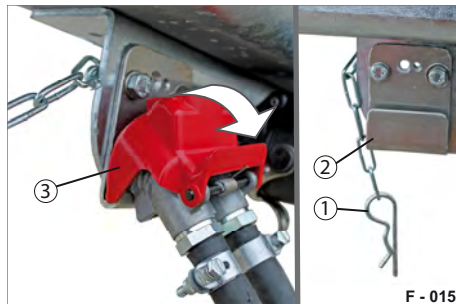

Fig. 18 Duo-Matic on park console
- ▶ Pull the spring pin (Fig. 18/1) out of the park console (Fig. 18/2).
- ▶ Press off the end cap (Fig. 18/3) and remove the Duo-Matic coupling from the park console.